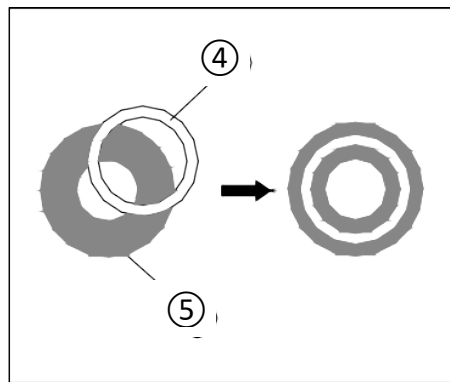

Fig. 29
- (6) If the phase annulus and phase ring are not centered and perfectly overlaid, use the phase contrast ring adjusting lever (3) to center the annulus (the phase ring (5) cannot move). While observing through the centering telescope, press the phase contrast ring adjusting levers into the condenser, then twist each left or right to align and center the phase annulus halo (4) over the phase ring (5). A properly aligned and centered phase annulus halo (4) will appear as in the right side of Fig. 29.
- (7) Remove the CT from the eye tube, and reinsert the eyepiece to observe the phase contrast effect.
- (8) Adjust the other phase contrast annuli (4) for the other phase contrast objective magnifications according to the steps above.